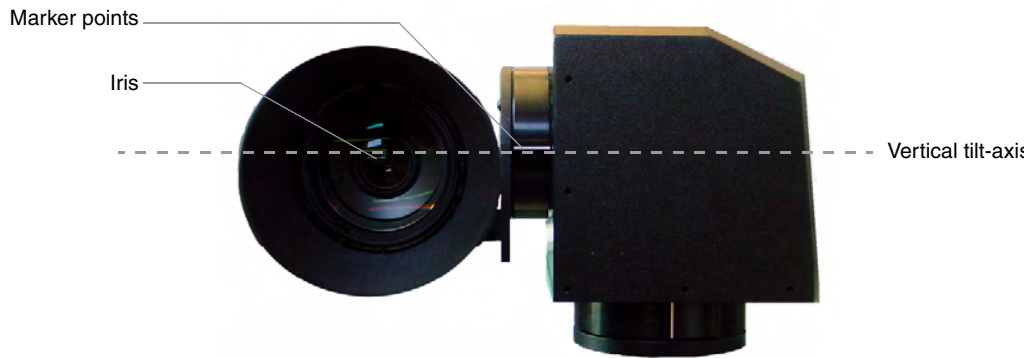

FIG. 17 Iris alignment with vertical tilt-axis
7. Take the entire camera/mount and cradle assembly and align the lens with the Tilt Hub so that the vertical-axis intersects the center of the camera's iris, as shown in FIG. 17.